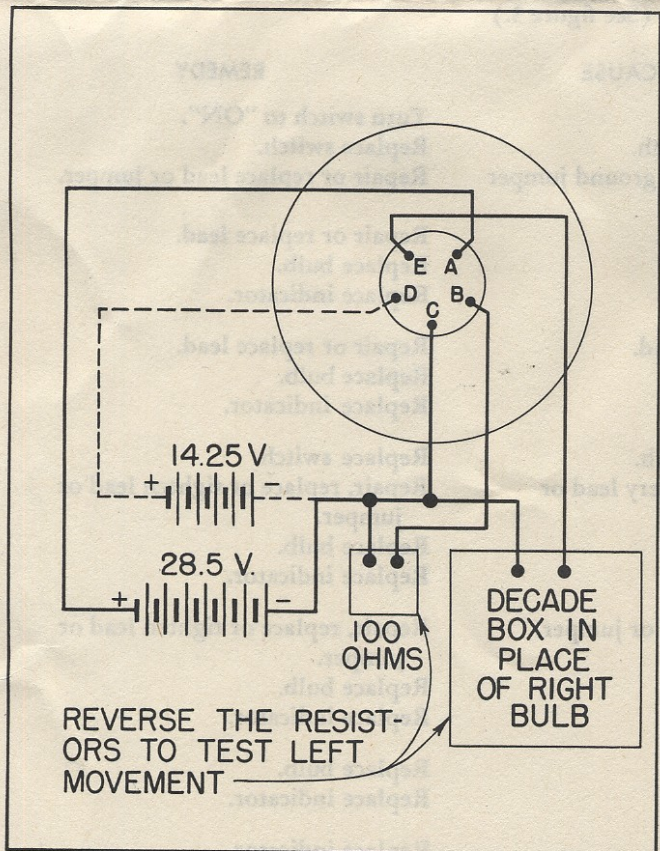

Figure 7—Indicator Test Circuit
a. INDICATOR.—To determine whether or not an indicator is at fault when trouble is reported, connect it to the test circuit shown in figure 7 and perform the following tests:
(1) SCALE ERROR TEST.—With the indicator connected as shown in figure 7, apply 28.5 volts to the proper terminals. Successively set the decade resistance box at the values listed in column one of table I. The scale error at normal room temperature (20°C. to 30°C. or 68°F. to 86°F.) should not exceed the values given in column three of table I. Repeat the test using 14.25 volts, instead of 28.5 volts, applied at the correct terminals of the indicator.
(2) POSITION ERROR TEST.—With no voltage applied, the pointer should remain off scale at the low temperature end with the indicator in any position. The indicator should be lightly tapped during this test. With voltage applied, and the bulb resistance set at any desired value, the change in pointer indication produced by tipping the instrument from the normal operating position to a position 90° to the left or right, and also
a. Connect the uncased indicator to the test circuit shown in figure 7, using 28.5 volts at the correct terminals, and set the decade resistance box to 108.55 ohms. Then balance the pointer.